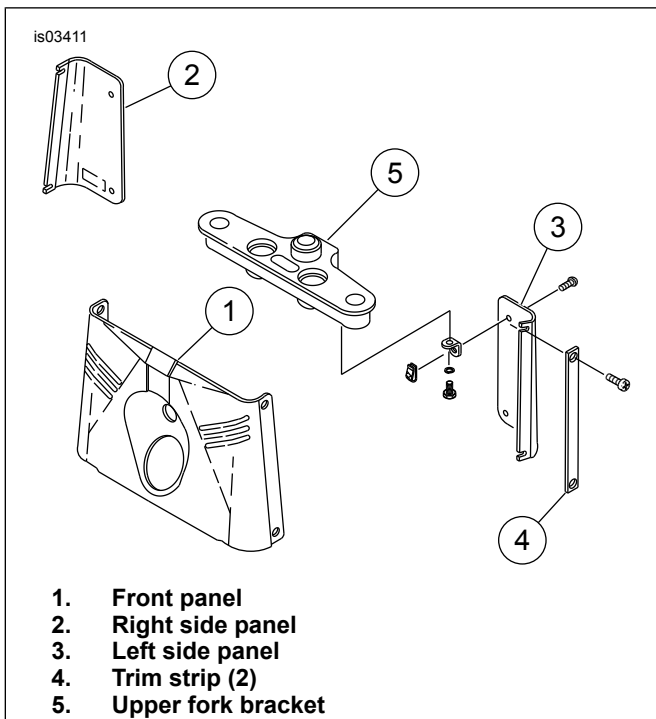

Figure 2. Front Fork Panels
8. See Figure 2. After headlamp housing is removed, remove screws that hold trim strips (4), side back panels (2 & 3), and front panel (1) in place and remove panels. When removing panels, carefully remove the brake line-routing clamps from the right-side back panel. Do **not** open the brake line.